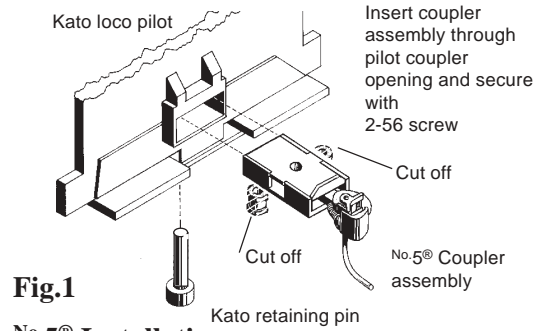

Fig.1
3. Modify the No.5® Draft Gear Box and Lid by cutting off side mounting lugs flush with sides. Assemble No.5® Coupler. Insert coupler assembly into coupler opening from the front and secure with Kato pin. See Fig.1.